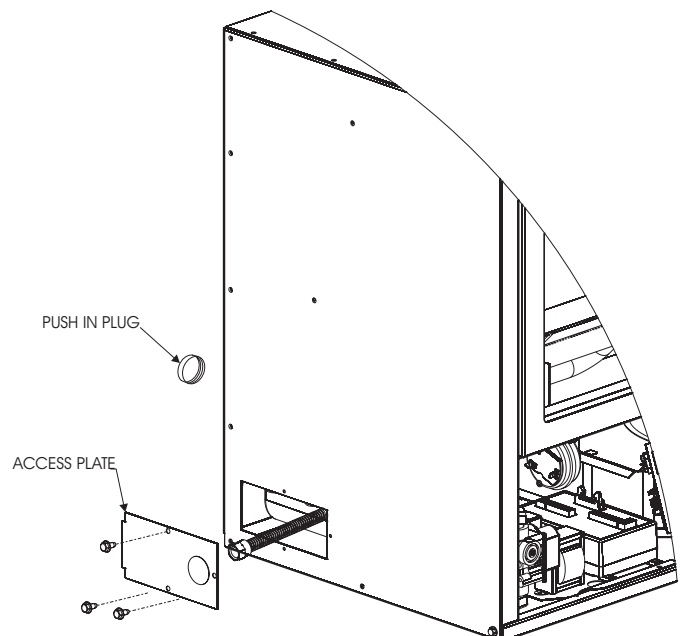

Figure 42
1. Remove the access plate on the left side of the cabinet by removing three screws as shown in Figure 42. Put the screws aside.